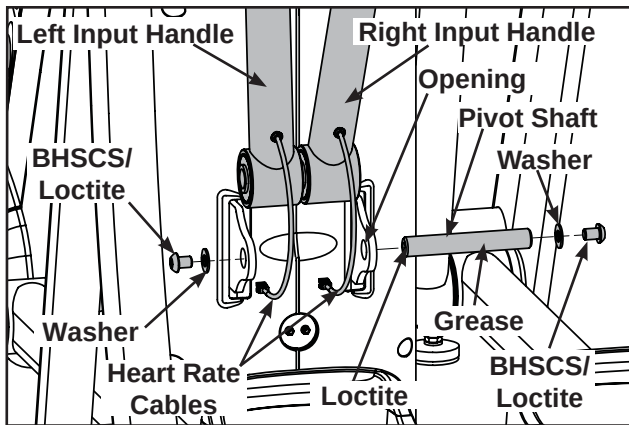

Figure 3
B. Unplug the heart rate cable. See Figure 3.
C. Using two 7/32" Allen wrenches, remove the BHSCS and washer from the pivot shaft. See Figure 3.
- D. Slide the pivot shaft through main frame opening to remove input handles. See Figure 3.